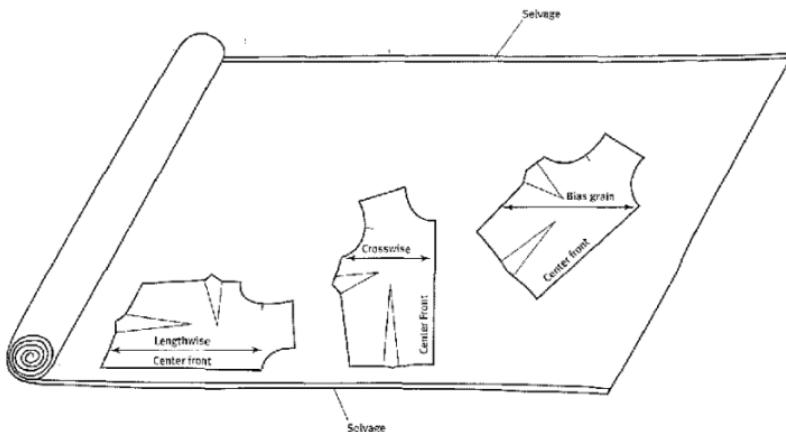

FIGURE 2.2 LENGTHWISE, CROSSWISE, AND BIAS GRAINLINES
- This grainline is drawn parallel to the center front/center back of the pattern (Figure 2.2).
- Make sure the pattern has two arrows drawn at both ends of the grainline to indicate that the pattern can be placed on the fabric in either direction (Figure 2.2).
- This grainline is drawn at a 90-degree angle to the center front/center back (see Figure 2.2).
- This grainline is drawn at a 45-degree angle to the center front/center back (Figure 2.2).